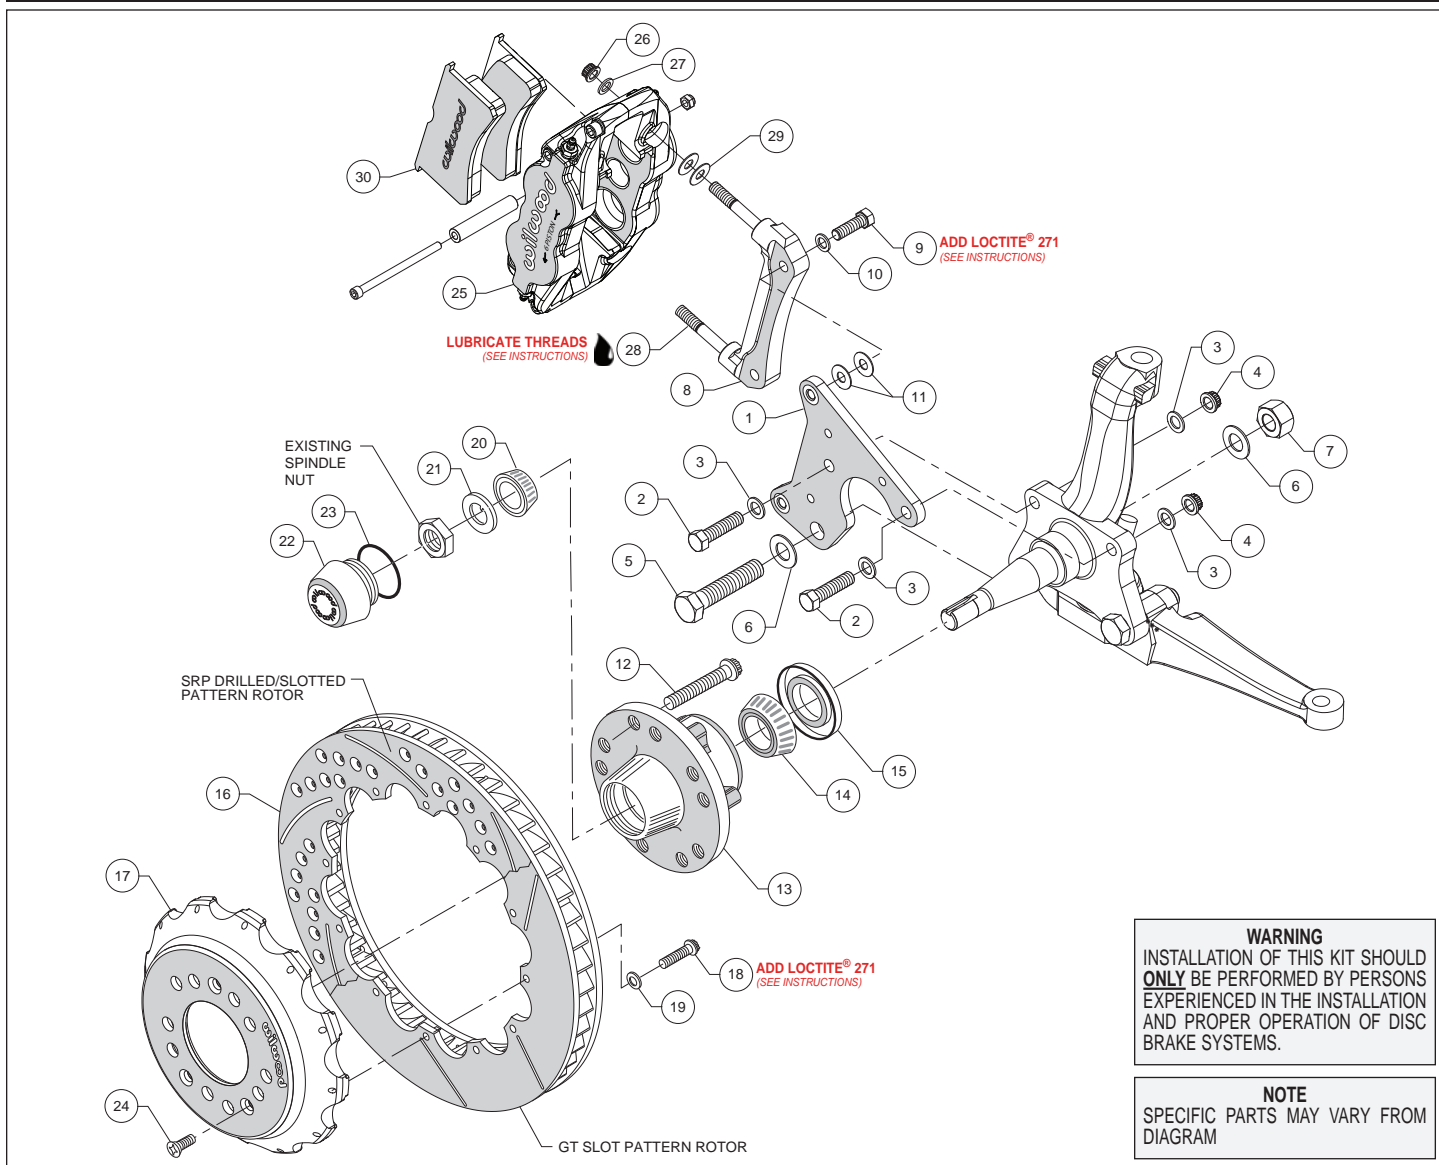
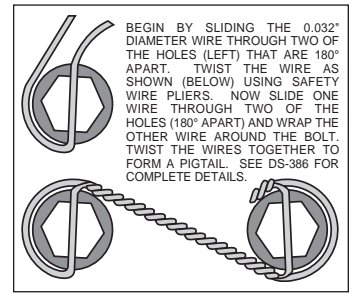

Figure 1. Typical Installation Configuration
Figure 3. Safety Wire Diagram
**Assembly Instructions** (numbers in parenthesis refer to the parts list and Figure 1 on the preceding pages): **CAUTION:** All mounting bolts must fully engage clinch nuts. Be sure to check that all bolts are protruding through flanged side of clinch nut after shimming.
- Orient the spindle bracket (1) as shown in Figure 1 and Photo 1, and install using bolts (2), washers (3), and nuts (4) on the top holes and bolt (5), washers (6), and nut (7) on the bottom hole, Figure 1 and Photo 1. Temporarily tighten the mounting bolts. Ensure that the flanged heads of the clinch nuts in the bracket are facing outboard, Photo 1. **NOTE:** The bracket must fit squarely against the mounting points on the spindle. Inspect for interference from casting irregularities, machining ridges, burrs, etc. Torque nuts (4) to 47 ft-lbs. and nut (7) to 140 ft-lbs.
- The caliper mount radial bracket (8) should initially be installed with clean, dry threads on the mounting bolts. Orient the bracket as shown in Figure 1, and Photo 2. Install onto the spindle bracket using bolts (9), and washers (10). Initially place two .035 thick shims (11) on each bolt between the radial and spindle brackets, Figure 1. Temporarily tighten the mounting bolts. Later, after the caliper alignment has been checked, the mount bolts will be secured using red *Loctite*® 271.
- Install wheel studs (12) into the hub (13), Photo 3. Torque to 77 ft-lb. **NOTE:** There are two five lug patterns in the hub (5 x 4.50 and 5 x 4.75). Ensure the correct hub stud pattern is being used to fit the wheel application.
- Pack the large inner bearing cone (14) with high temperature disc brake bearing grease (available from your local auto parts store) and install into the backside of the hub (13), Photo 4.
- Install the grease seal (15) by pressing into the backside of the hub (13), flush with the end of the hub, Photo 4.
- Orient the rotor (16) and the hat (17) as shown in Figure 1 and Photo 5. Attach rotor to hat using bolts (18) and washers (19). Using an alternating sequence, apply red *Loctite*® 271 to the threads, and torque to 155 in-lbs. For an added measure of security, the bolts may be safety wired using standard 0.032 inch diameter stainless steel safety wire as shown in Figure 3. Refer to Wilwood's data sheet DS-386 (available at [www.wilwood.com/Pdf/DataSheets/ds386.pdf](http://www.wilwood.com/Pdf/DataSheets/ds386.pdf)) for complete safety wire installation instructions.
- Slide the hat/rotor assembly (16/17) onto the hub (13) taking care to align the small countersunk holes in the hat with the small threaded holes in the hub. **NOTE:** The hat must fit flush against the hub face or excessive rotor run out may result. Install three flat head screws (24) through the small holes in the hat, Photo 7, and torque to 85 in-lb.
- NOTE:** This kit contains distinct right and left hand calipers that must be mounted in a specific direction, as described below. Lubricate the caliper mounting studs (28) with lightweight oil. Initially place two .035" thick shims (29) on each stud between the caliper and the bracket, as shown in Figure 1 and Photo 8. Mount the caliper (25) onto the bracket (8) using lock nuts (26) and washers (27), Figure 1. Ensure that the caliper is mounted so the largest pistons are at the rotor exit end of the caliper, in relation to the direction of rotor rotation. Temporarily tighten the lock nuts and view the rotor through the top opening of the caliper. The rotor should be centered in the caliper, Photo 9. If not, adjust by adding or subtracting shims (11) between the spindle bracket (1) and the caliper mount bracket (8). Always use the same amount of shims on each of the two mounting bolts. Once the caliper alignment is correct, remove the radial bracket mounting bolts one at a time, apply red *Loctite*® 271 to the threads, and torque to 40 ft-lb. **NOTE:** The end of the bolts must be flush with, or protruding through, the head of the clinch nut.